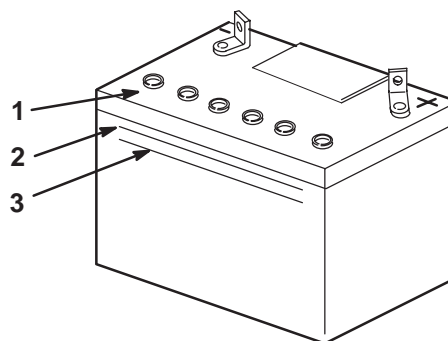

Figure 55
2. Look at the side of the battery. The electrolyte must be up to the **upper** line (Fig. 55). Do not allow the electrolyte to get below the **lower** line (Fig. 55).
3. Remove the vent caps from the battery (Fig. 55).
4. Slowly pour distilled water into each battery cell until the level is up to the **upper** line (Fig. 55) on the battery case.
5. Wait five to ten minutes after filling the battery cells. Add distilled water, if necessary, until the electrolyte level is up to the **upper** line (Fig. 55) on the battery case.